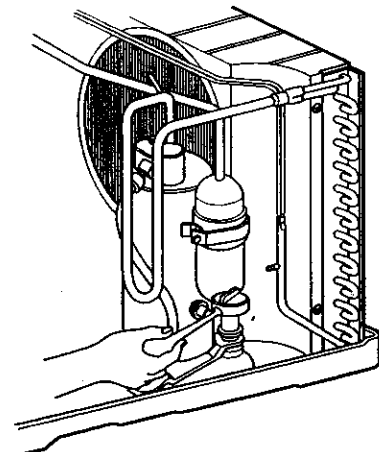

Figure 49
6. Remove the compressor. (See Figure 49)